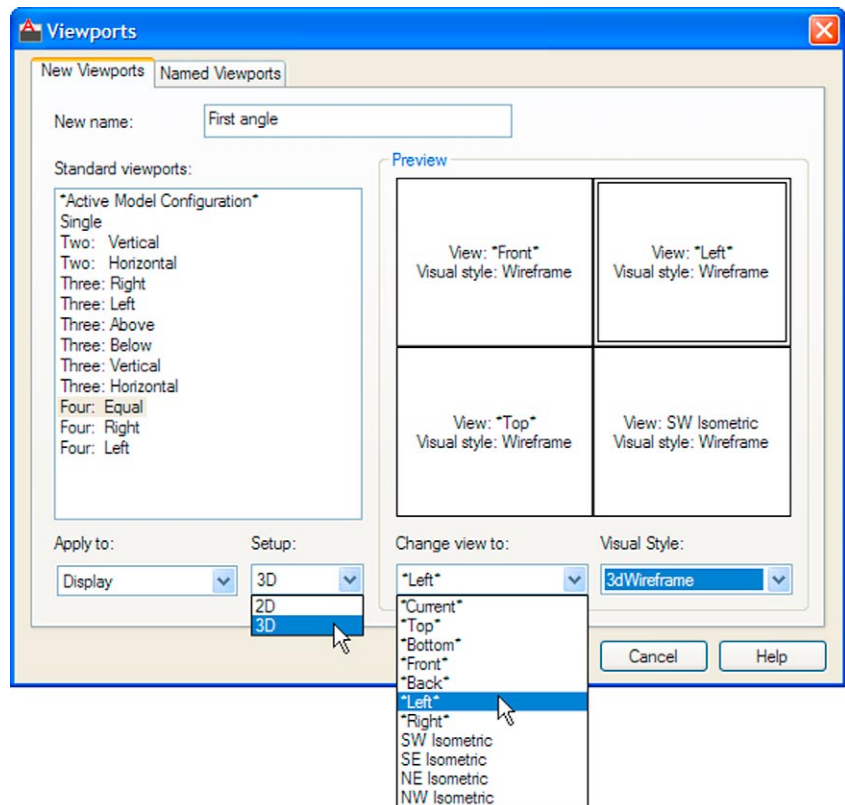
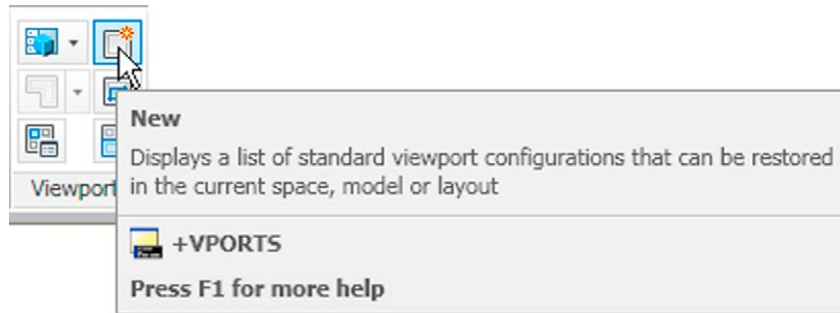

Fig. 13.5 The **Viewports** dialog set for a **3D first angle Four: Equal** setting
Fig. 13.6 Selecting **New** from the View/Viewports panel
If a **first angle** layout is needed it will be necessary to open the **Viewports** dialog (Fig. 13.5) with a *click* on the **New** icon in the **View/Viewports** panel (Fig. 13.6). First select **Four: Equal** from the **Standard viewports** list; select **3D** from the **Setup** popup menu; *click* in the **top right** viewport and select **Left** in the **Change View** popup list; *enter* **first angle** in the **New name** field. Change the other viewports as shown. Save the settings with a *click* on the **Named Viewports** tab and *enter* the required name for the setup in the sub-dialog which appears.
3. Using the **Polyline** tool, construct the outline of the plan view of the plate of the support, including the holes in the **Top** viewport (Fig. 13.5). Note the views in the other viewports.